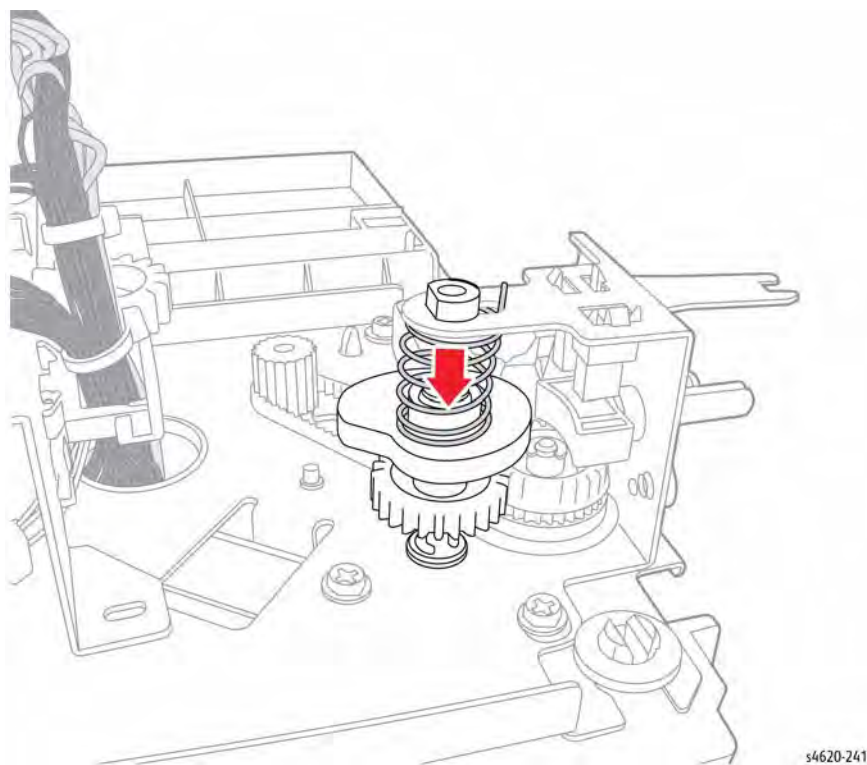

Figure 1 Release the bearing from the bracket
5. Compress the spring and remove the E-clip that secures the outer bearing in the bracket, Figure 1.